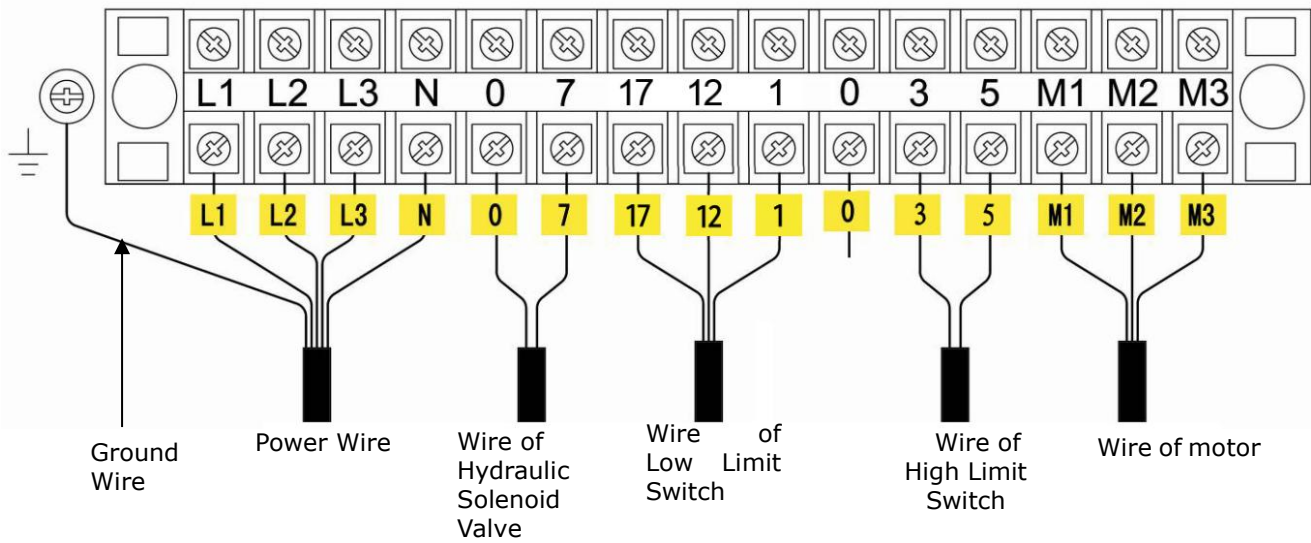

Fig. 16
1.1 Connect the power wire and limit switch wire according to the Wiring diagram (See Fig. 16)